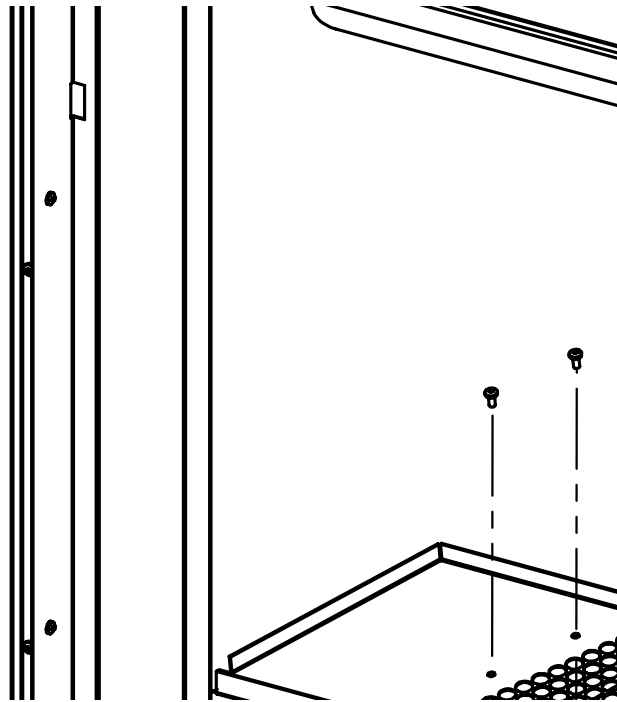

Figure 24. Suppression de Bacs de Support
4. Remove media tray by removing the four (4) T-20 screws (see Figure 24).